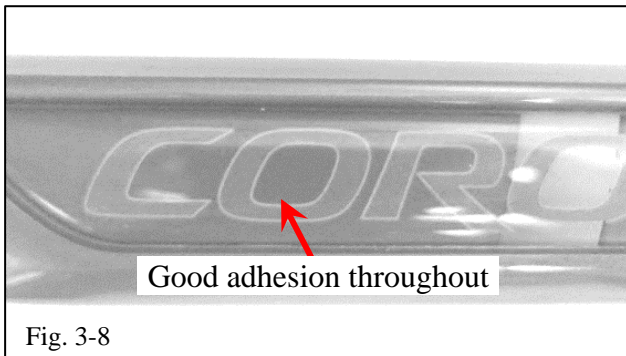

Fig. 3-8
**NOTE:** Be attentive to the outer edges of the badge to ensure all air has been removed and the badge surface has complete contact (Fig. 3-8).